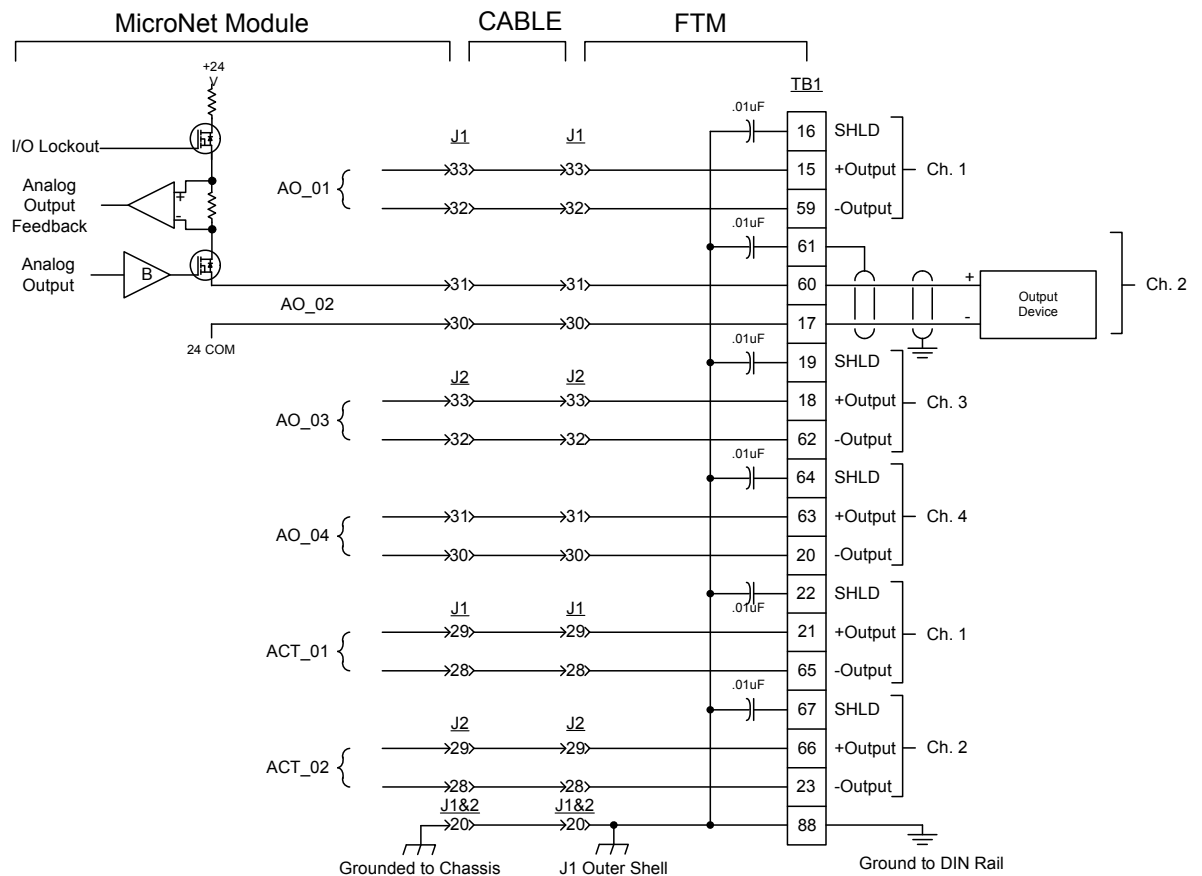

Figure 4-9. Example Analog Output Circuitry and Wiring Diagram
The Analog Combo module has four 4–20 mA current output drivers. These four analog outputs can drive a maximum load of 600 ohms (load + wire resistance). Care should be taken to prevent ground loops and other faults when interfacing to non-isolated devices. See Figure 4-9 for an example of 4–20 mA output wiring.
Actuator Outputs (Figure 4-9 as ACT_01 and ACT_02)
- Refer to Figure 4-9 for Analog Output wiring connections on the MPU / Analog IO Field Termination Modules.
Figure 4-9 shows a circuitry and wiring schematic for the six analog outputs found on an MPU / Analog IO Field termination Module. Refer to Volume #3 of this manual for a complete list of programmable analog output options.